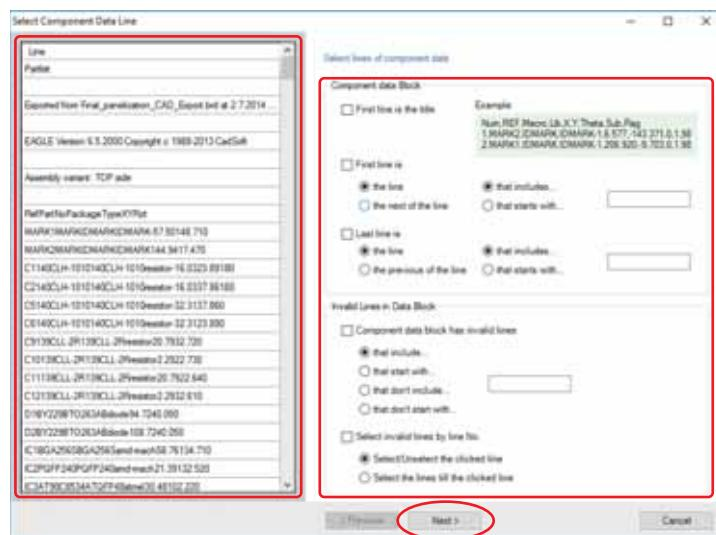

Figure 1-44 Selecting Components Information Line
- Step6: Make sure that the component data lines are highlighted in white and other lines are grayed out on the **Line** section of Figure 1-44.